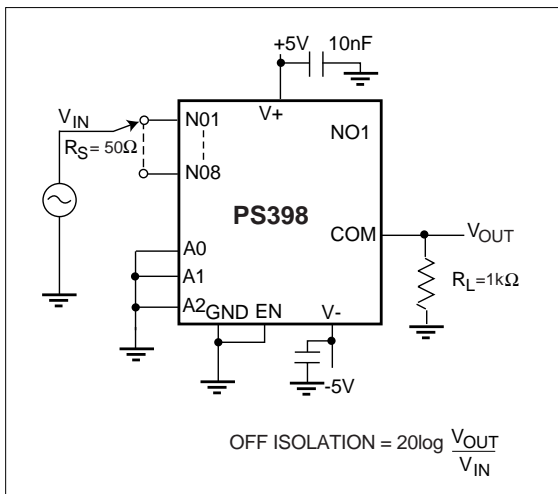

Figure 5. Off Isolation
- Off Isolation =  $20\log_{10} V_{COM} / V_{NO}$ . See Figure 5.